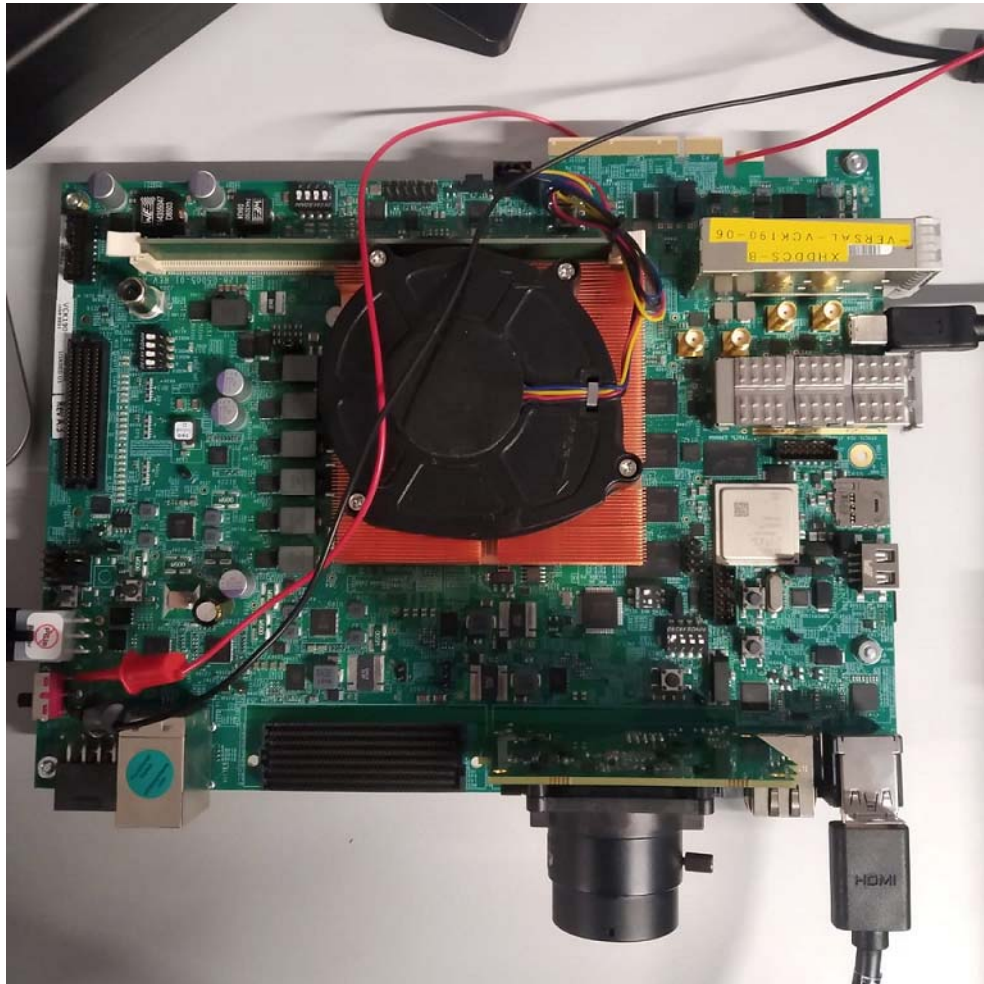

Figure 5-11: VCK190 Board
- f. Ensure that the SD card, board switches and jumpers are in position as shown in Figure 5-11.